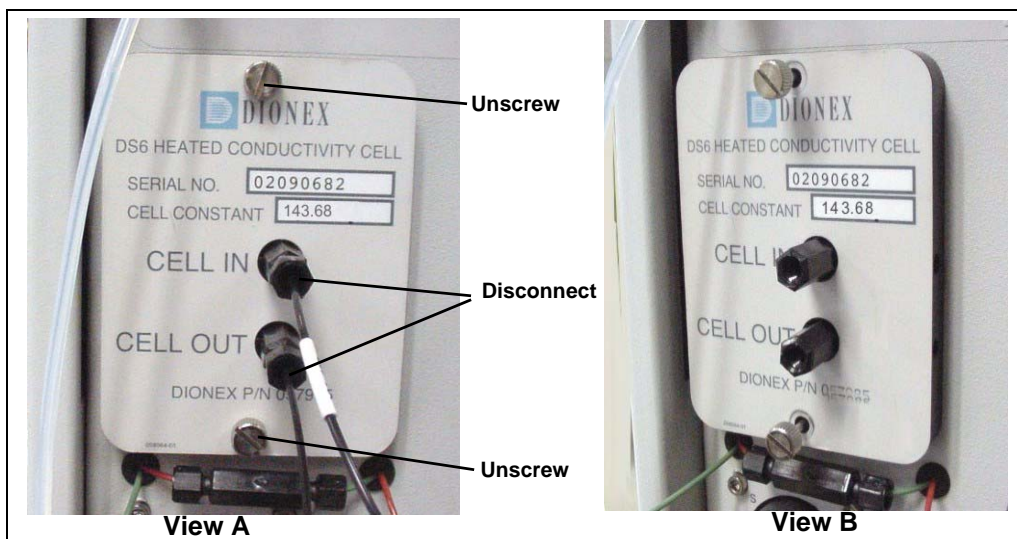

Figure 5-18. Removing the Cell Front Cover
2. Open the front door and disconnect the tubing from the **CELL IN** and **CELL OUT** fittings (see Figure 5-18, View A). Loosen the two screws on the cell front cover. The screws remain attached (see Figure 5-18, View B).